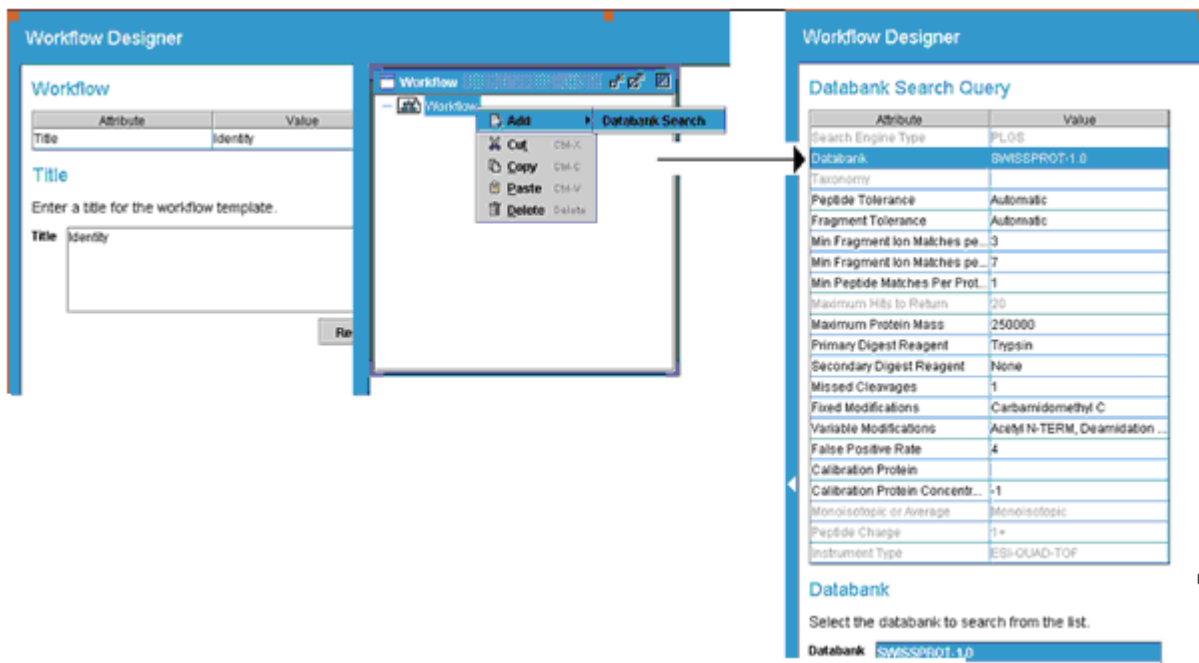

Figure 96 - Template parameters
12. Ensure the **Databank SWISSPROT – 1.0** is selected and the parameters are set as shown in Figure 96.